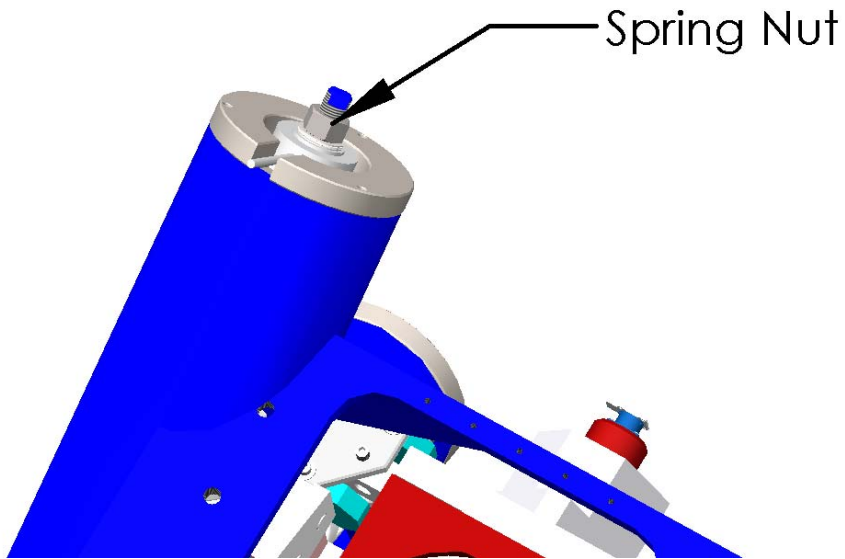

Figure 4
5.4 Now that (D972610) Support Tubes are supported it is time to unload the Hepi Springs. Once you are sure the weight is properly supported by the jack screws, while watching the digital read outs for the load cells, slowly start unscrewing the spring nuts, unloading each spring in small increments of 50 lbs. per spring and alternate. Figure 4.